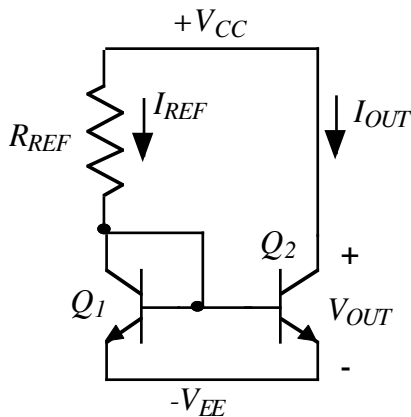

Figure 1
current source/sink, V_{MIN} , for all the circuits shown in Figures 1 to 4. Your calculations should be included in your Lab report and compared with measurement results.
- Construct the simple current mirror shown in Fig. 1. In the circuit use the BJT transistor pair (V_{BE} mismatch $\pm 5\text{mV}$) or individual transistors (V_{BE} mismatch slightly worse than $\pm 5\text{mV}$) from the CA3046 chip. **Make sure that pin 13 (Emitter of Q_5) is ALWAYS connected to $-V_{EE}$** (see Note in p.4). The CA3046 devices are sensitive to electrostatic discharge; follow proper IC handling procedures.
It is recommended that you will use this template to draw interconnections between transistors **BEFORE** attempting to assemble the circuits shown in Figs. 1 to 4 on the protoboard. This drawing is very helpful in assembling and debugging your circuit.